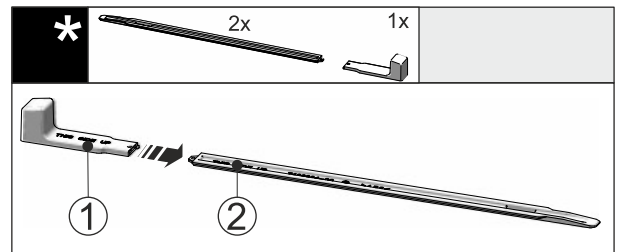

Fig. 48
- ▶ Attach the installation handle Fig. 48 (1) to the levelling rail Fig. 48 (2).